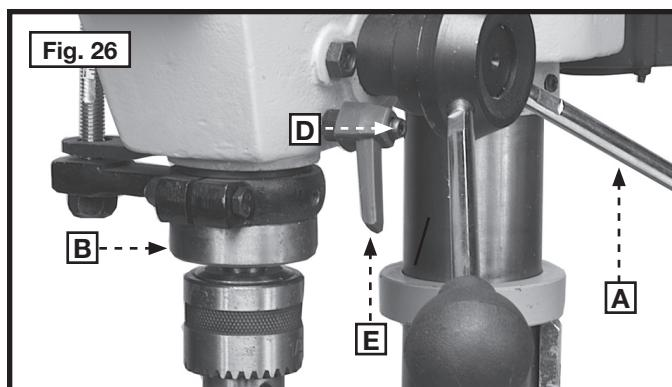

Fig. 26
Raise or lower the spindle by using the pilot wheel (A) Fig. 26. You can lock the quill (B) at any desired point in its travel by tightening the quill locking lever (E).